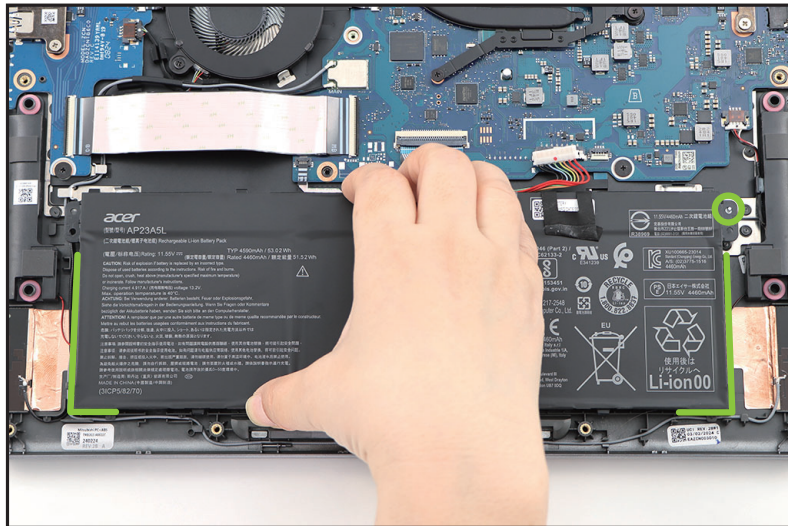

Figure 1-7. Battery Pack Removal
- Lift to release the battery pack from its compartment edges (marked with green lines) and from the guide (marked with green circle). Then remove the battery pack from the top assembly. (Figure 1-7).